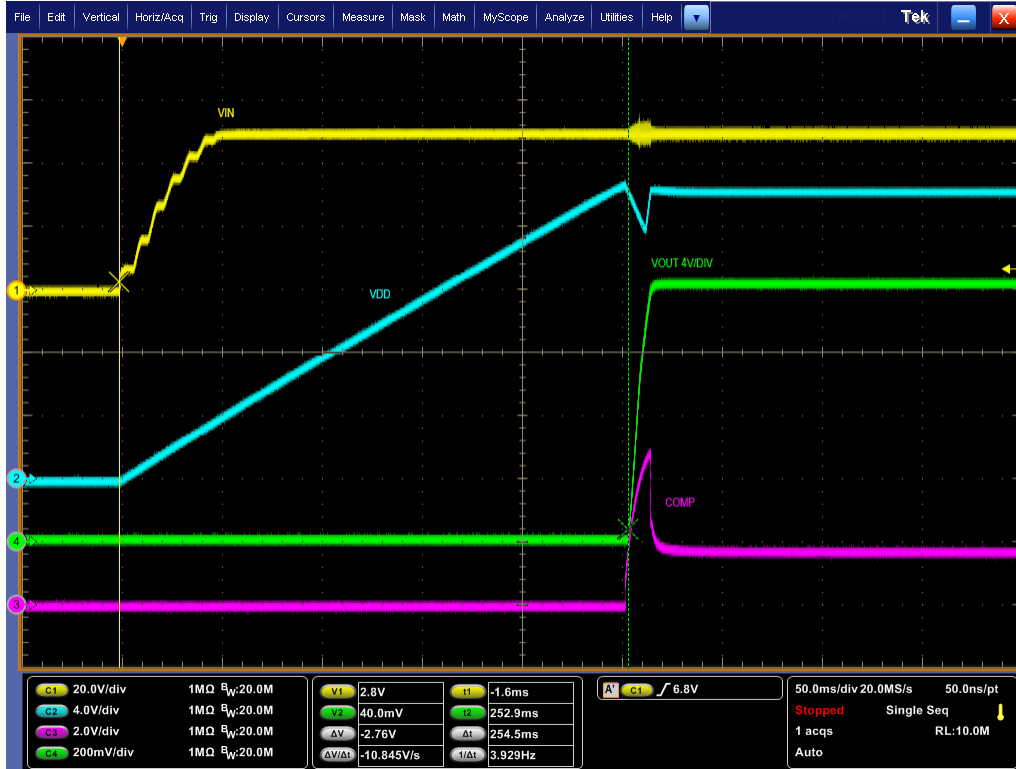

Figure 5-7. Start-Up 1: VIN = 50 V, Load = 0.25 A
11. Increase VIN to 800 V. At 800 V and 0.25 A load [and 2.7 A load] your result should be similar to figure 5-7 [and figure 5-8]. If your results are the same as figure 5-7 and 5-8 at 800 V then your EVM is 100% functioning correctly and you can proceed with other tests.